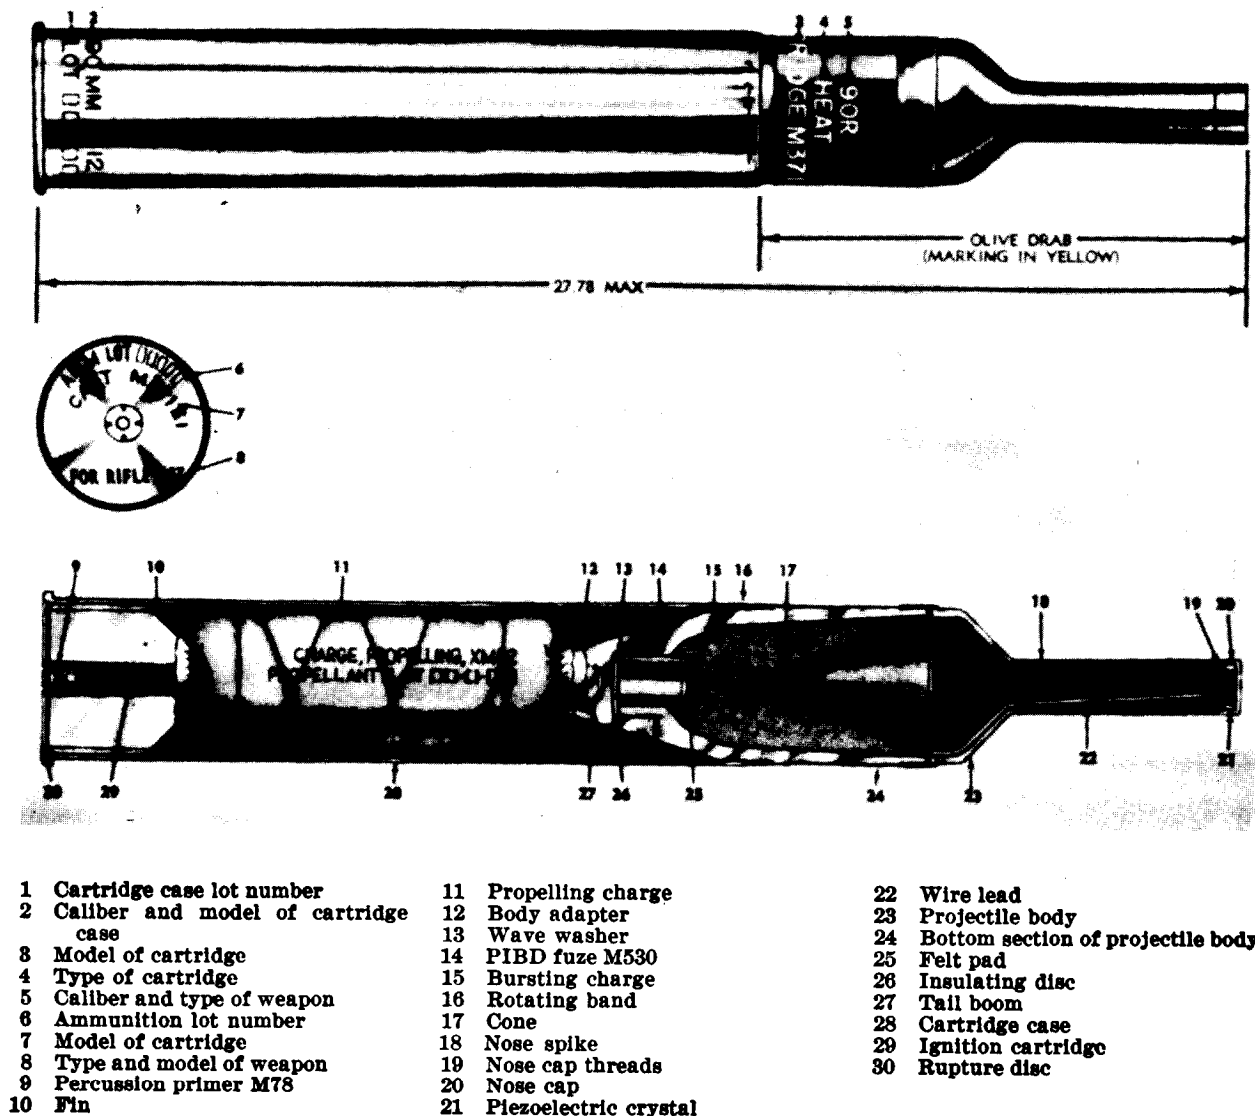

Figure 15. 90mm HEAT cartridge, M371E1.
a. The high explosive, antitank round (fig. 15) utilizes a special fin-stabilized projectile which employs the shaped-charge principle to defeat armor. It does not depend upon velocity at the moment of impact for its effect. It relies upon a concentration of the effect of the explosive filler through its shape. The conical shape of the filler concentrates the force of the explosion into a hot jet that blows its way through the armor. The shape of the filler is maintained by a metal cone which forms a slug when the filler is exploded. This slug or metal may or may not follow the explosive jet through the armor. The complete cartridge weighs approximately 9¼ pounds. The projectile weighs approximately 6¾ pounds, and has a muzzle velocity of approximately 700 feet per second.